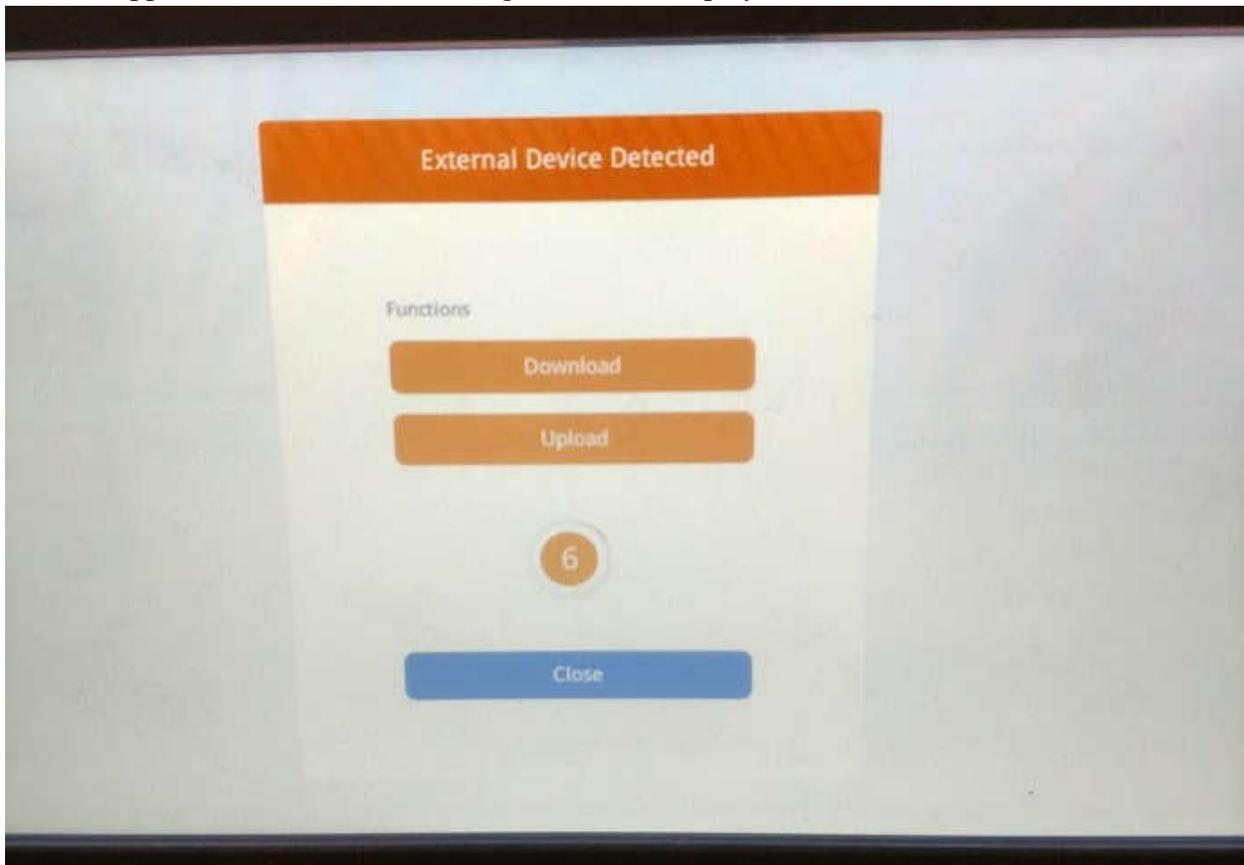

Fig. 22 External device screen
1. With power applied to the sanitizer, insert a flash drive into the USB port on the front of the sanitizer. This is located right by the cord for the barcode scanner. When this happens, the screen shown in fig. 22 will be displayed.